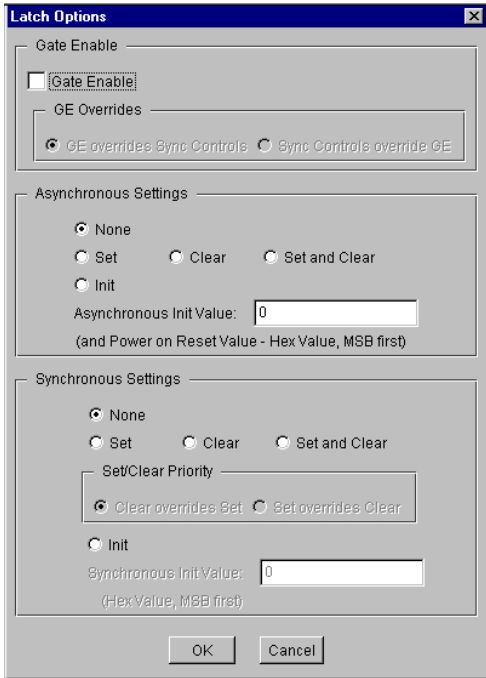

Figure 2: Latch Options Parameterization Screen
- **Latch Options:** Clicking on this button brings up the Latch Options parameterization screen (see Figure 2).
The Latch Options parameterization screen for this module is shown in Figure 2. The parameters are as follows: